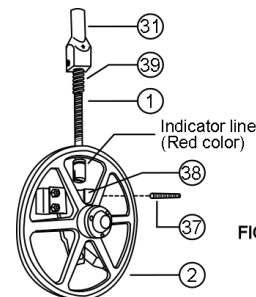

FIG. 7 ASSEMBLY OF UPPER WHEEL AND TENSION GUIDE
3.- Slide the upper wheel (2) down, out of the tension guides (32) and remove it, **be careful because it's heavy and if it falls may cause a personal injury.**
4.-The upper wheel (2) is assembled to the tension gauge assy. (Fig.7). Disassemble the tension guide assy by removing the tension gauge pin (37) with your hands. This will let you to take out the tension gauge housing (31), tension gauge spring (39), the rod an indicator (1), and the upper wheel hanger (38). Clean these parts using a soft brush and a mild detergent, rinse with water.